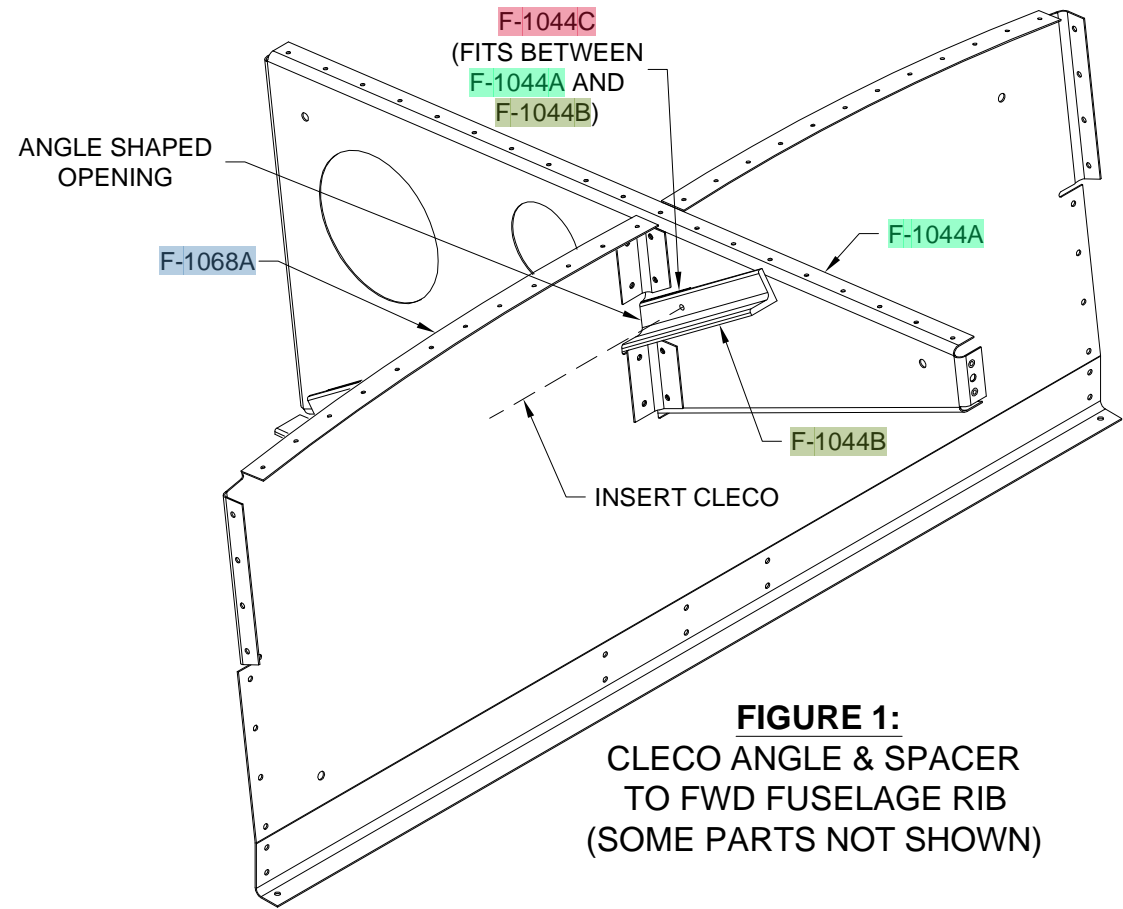

**FIGURE 3:**
Step 4: Cleco the F-1044A Fwd Fuselage Rib, F-1044D, E, & F Angles, F-1045-L & R Fwd Fuselage Ribs, F-1068A Sub Panel Center, F-1068B-L & R Sub Panel Sides, and F-1083 Control Cable Bracket as shown in Figure 3.